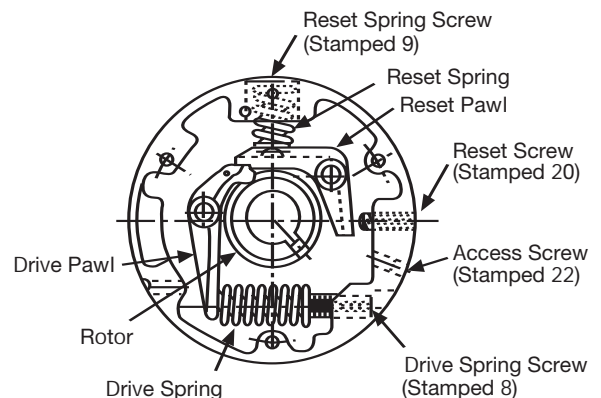

Figure 4
- a. After the overload condition has been corrected, rotate the drive until the rotor keyway is in alignment with the hole stamped 22 located on the outside diameter of the housing (See Figure 4).
- b. Reset the clutch by inserting a hex wrench into the reset screw shown in Figure 4, and turn the screw clockwise until the reset pawl releases the drive pawl. Refer to Table 5 for the proper wrench size.